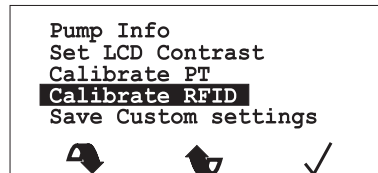

Figure 28 - LCD Display - Calibrate RFID
- 9.4 Using the **Down** and **Up** buttons (Refer to Page 5, Section 5), scroll down the list of options to **Calibrate RFID**, and select it using the **✓** button (Refer to Figure 28).